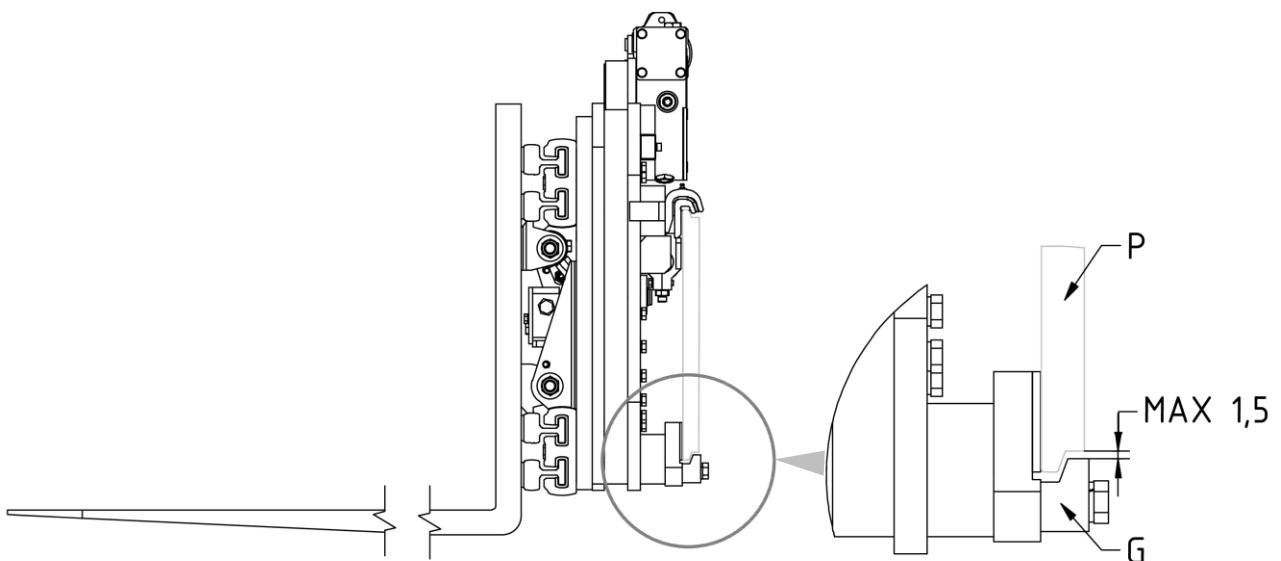

Figure 9
8. Screw on the 2 lower couplings **G** in such a way that their bodies also remains coupled to the lower part of the fork carriage **P** (with max. clearance of 1.5 mm, see detail *Figure 9*), tightening with the torque indicated in *Table 4*.